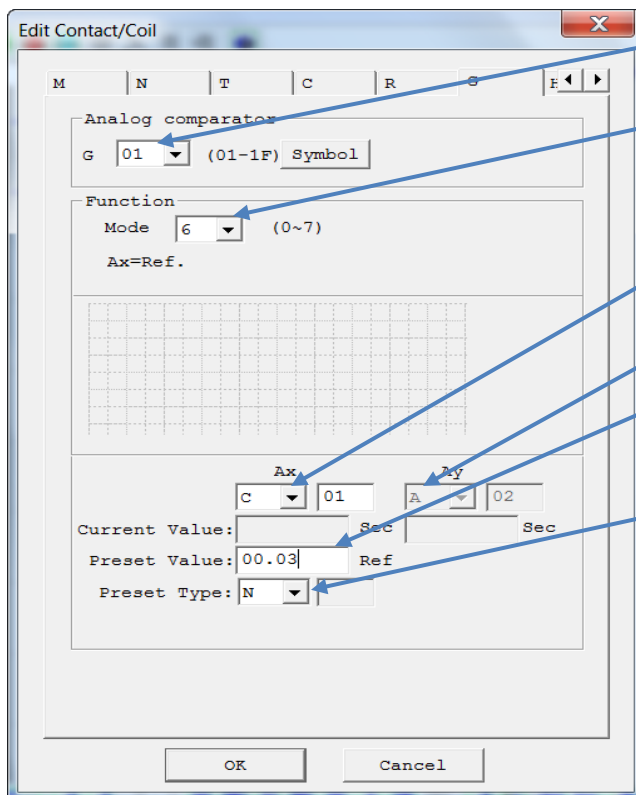

Figure 2
- Double-click your mouse with the pointer hovering over  G01 to open the “Edit Contact/Coil” screen as seen in Figure 2.